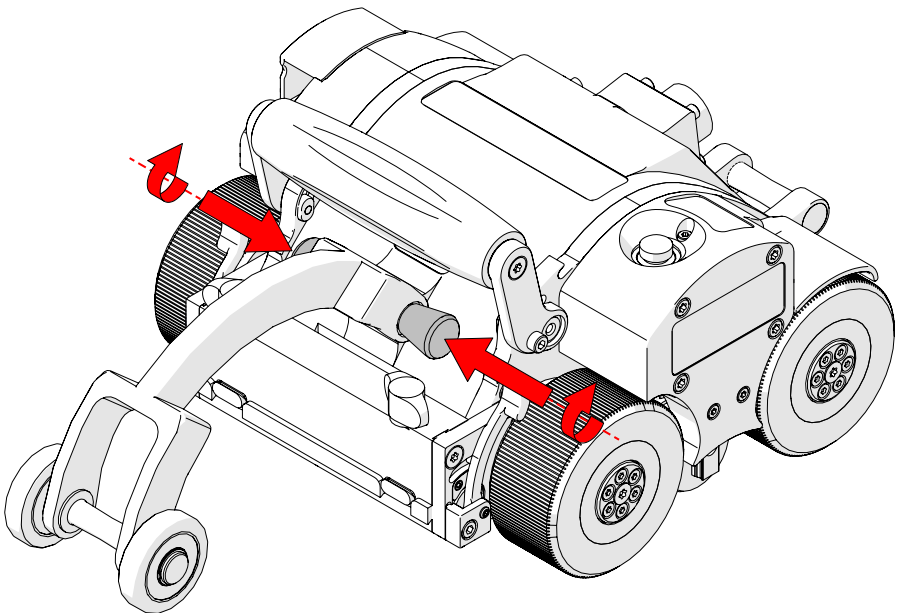

Fig. 103 - Twist pins to unlatch and connect
3. Twist the pins until they unlatch and extend into the connection holes of the **MOTIX** (Fig. 103).